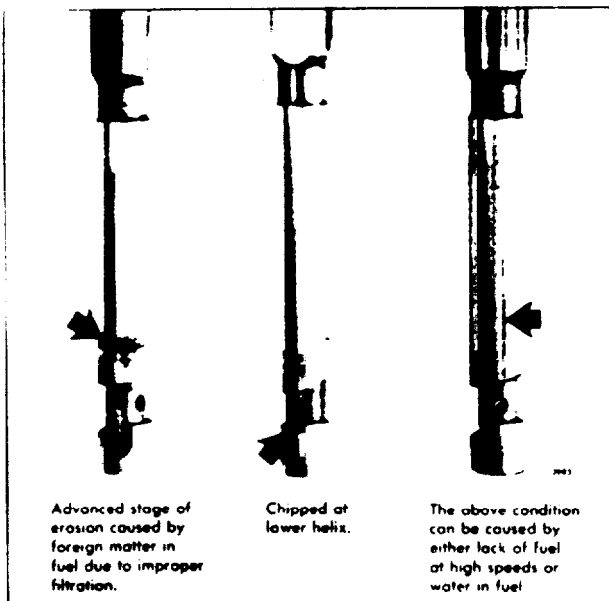

Fig. 12. Unusable Injector Plungers
4. Inspect the plunger. If the plunger is chipped (Fig. 12), replace the plunger and bushing assembly